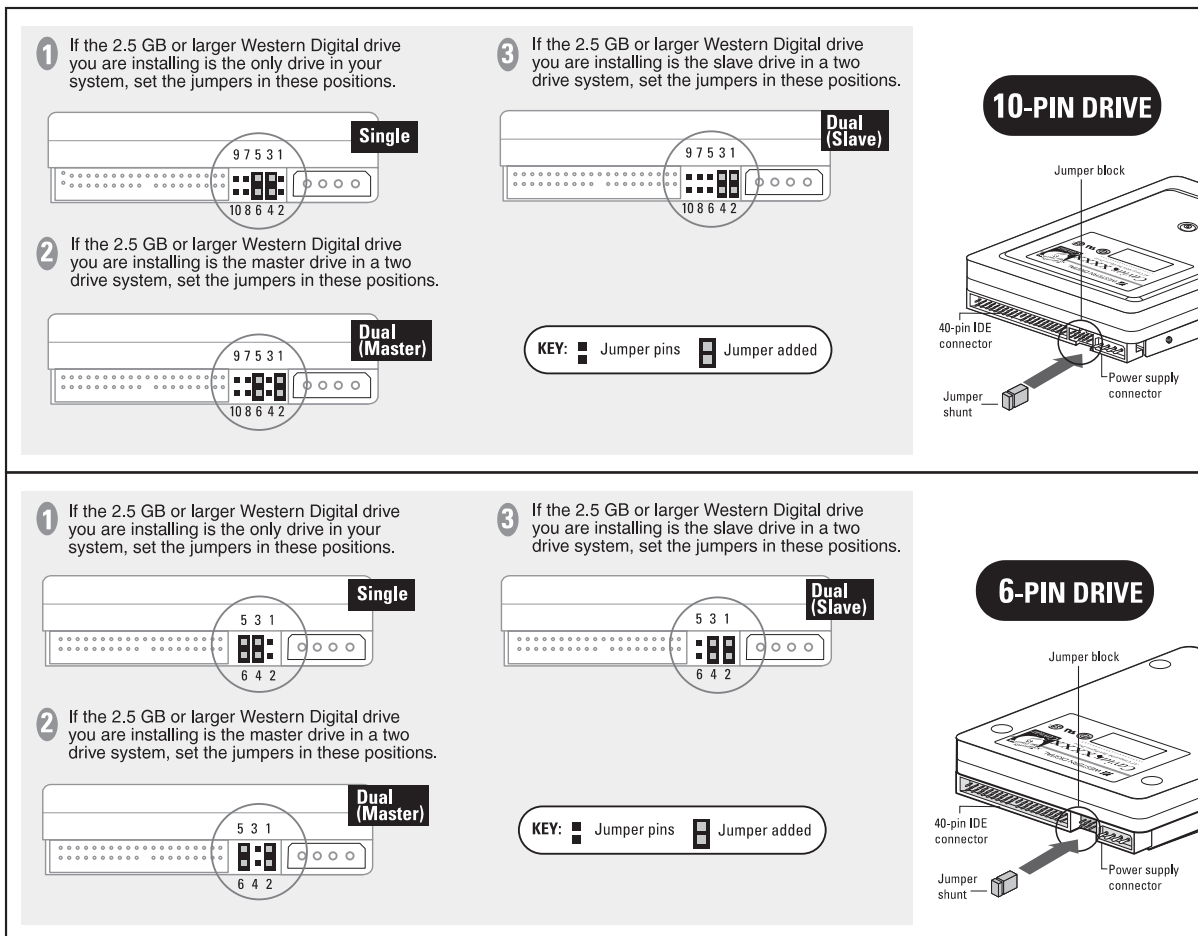

Figure 4. Jumper Settings for 2.5 GB or Larger Hard Drives (Used to overcome the BIOS limitations described in this section.)
2. Rejumper the drive as shown in Figure 4 on page 6, and install EZ-Drive. If you use the alternate jumper settings, you must install EZ-Drive.